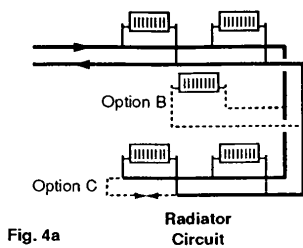
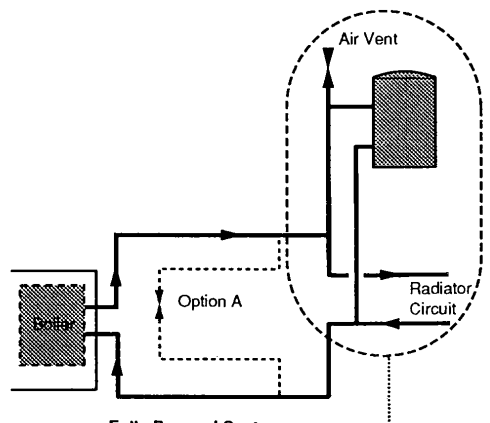

Fig. 4a
Fig. 4b
NOTE: For 'S' Plan systems the bypass flow circuit must be situated between pump and zone valves as option A shows (Fig. 4b).
a) For all boilers a minimum of 6 metres of 22mm copper pipe, (measured between the boiler flow and return connections). It should be fitted with a lock shield valve opened at least 1 full turn or a proprietary bypass valve set to give a minimum flow rate of 8 litres/min (1.8 gal/min) (Option C, Fig. 4a & Option A, Fig. 4b).
b) A radiator fitted with lock shield valves. The radiator output should be a minimum of 800 watts (2,700 Btu/h). Typically a convector type radiator with an area of 3750 cm² (4 sq ft) is adequate (Option B, Fig. 4a).
c) Any circuit that provides the same operating conditions as option A or option B (Figs. 4a & 4b).